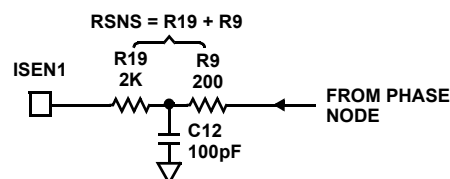

FIGURE 10. NOISE FILTER FOR ISEN1 INPUT
5. A 'T' filter consisting of a 'split' RSNS and a small, 100pF , capacitor as shown in Figure 10, may be helpful in reducing noise coupling into the ISEN input. For example, if the calculated value of RSNS1 is $2.2\text{k}\Omega$, dividing it as shown with a 100pF capacitor provides filtering without changing the current limit set point. For any calculated value of RSNS, keep the value of the R9 portion to approximately 200Ω , and the remainder of the resistance in the R19 position. The 200Ω resistor and 100pF capacitor provide effective filtering for noise above 8MHz .